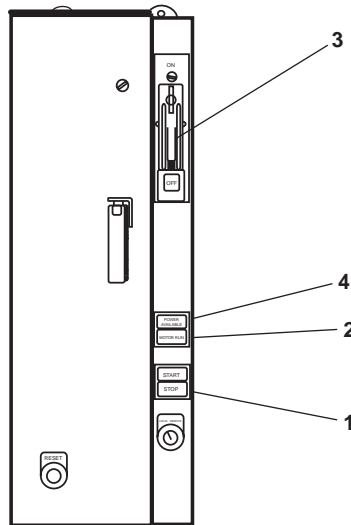

Figure 4. Potable Water Pump 1 and 2 Motor Controller
- a. Press the STOP pushbuttons (figure 4, item 1).
- b. Verify that the MOTOR RUN indicators (figure 4, item 2) go out.
- c. Set the ON-OFF switches (figure 4, item 3) to OFF.
- d. Verify that the POWER AVAILABLE indicators (figure 4, item 4) go out.